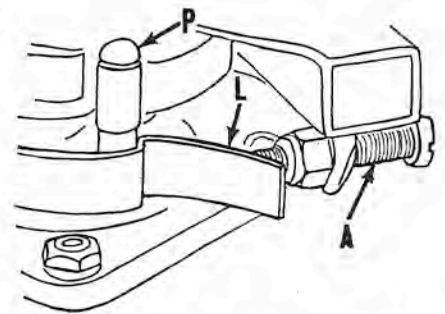

Fig. M83—Latch spring adjustment is required on some early models.
On older models, move the speed control lever slightly toward "Slow" position and check the adjustment of the latch spring as shown in Fig. M83. Hold the speed control sector and move the distributor body counter-clockwise toward the advance stop. Note the clearance between latch spring (L) and sector pin (P) while torque is applied. The spring should latch over the pin with no more than $\frac{1}{64}$ -inch clearance between pin and latch spring. Adjust by loosening the screws retaining latch (L) to distributor. After the adjustment is made, move control lever until distributor advance stop contacts the crankcase; then adjust the screw (A) until latch (L) is unhooked from pin (P).